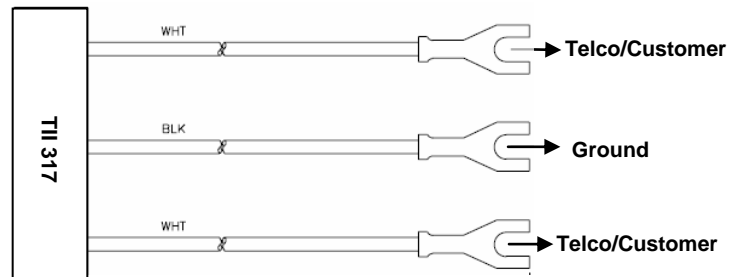

Figure 1
- 3.3 The two outer leads are connected across the two-wire circuit being protected, and the center lead to ground. See Figure 1 for connections.